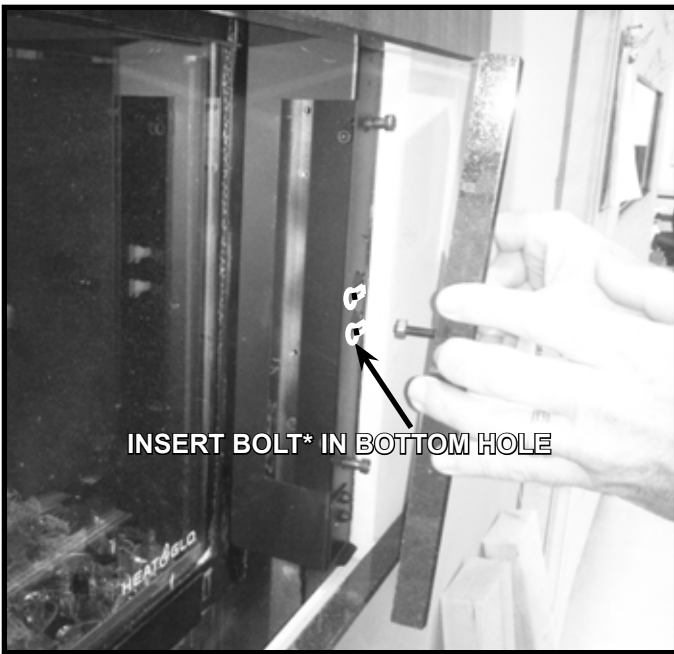
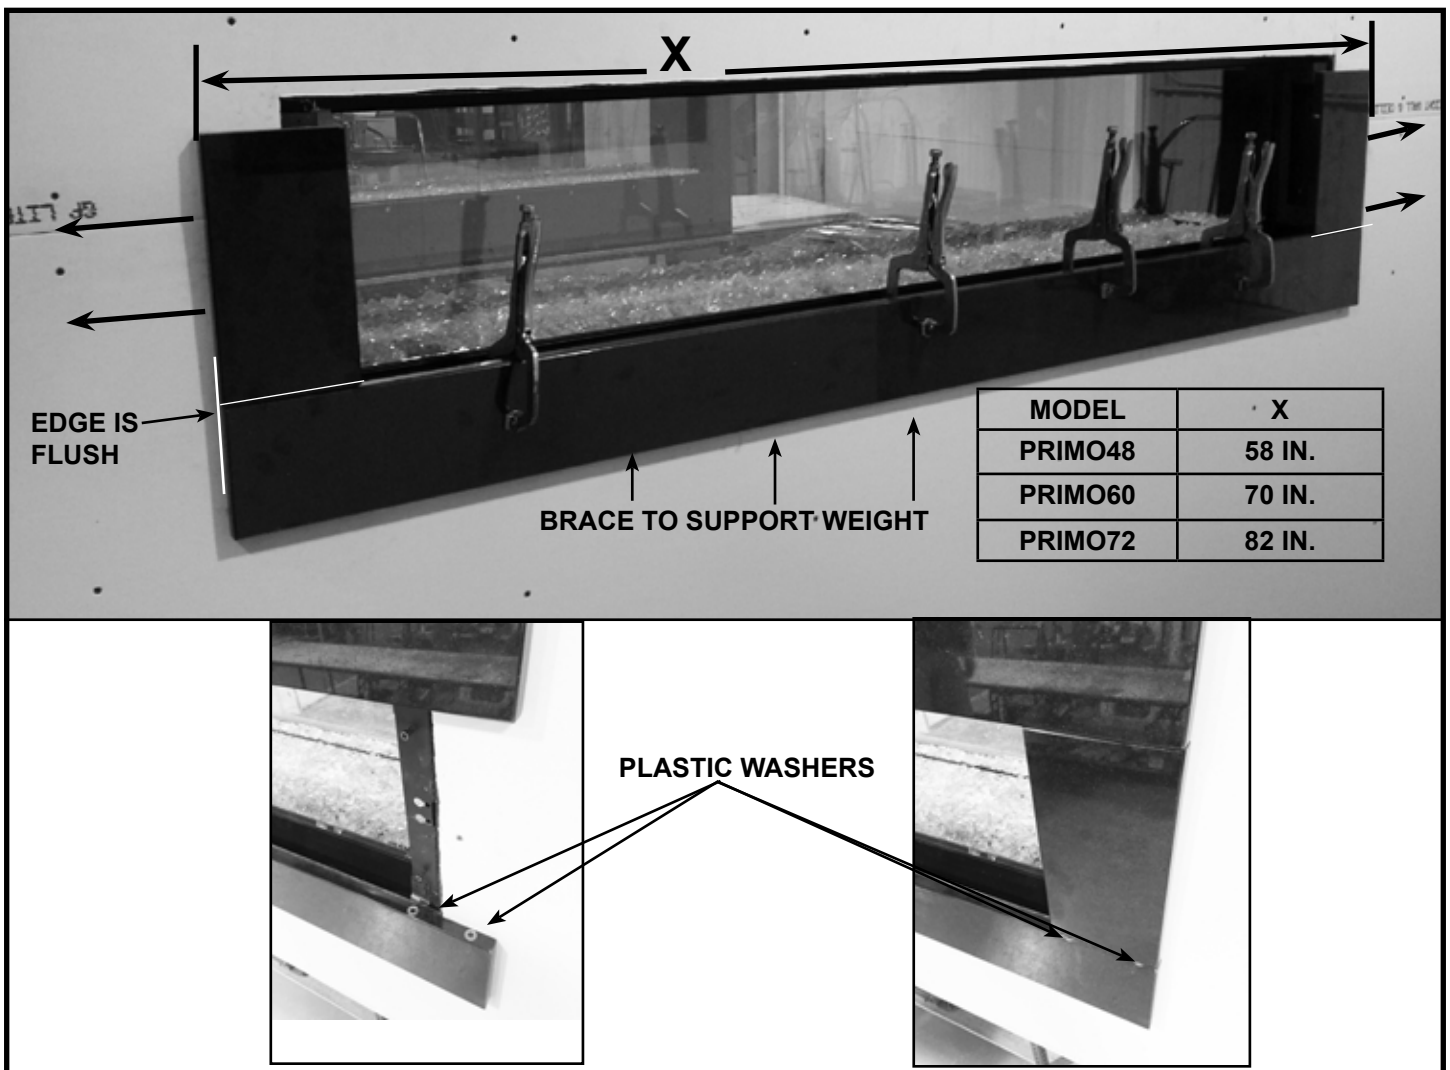

Figure 10.25. Install Side Granite Pieces
Figure 10.29 Bottom Granite Piece Installed
3. Install right outside granite by aligning the bolts on the back of the granite piece with bottom hole on granite transition panel bracket. Insert the bolt\* in the bottom slot. See Figure 10.25. Align and slide toward outside of appliance. Repeat with left side granite.
**NOTICE!** Verify the left and right side granite locations before installing the top and bottom granite. See Figures 10.25, 10.27, 10.29.
- Slide both side granite pieces outward as shown in Figure 10.29. Verify dimensions in Figure 10.25, 10.27 and 10.29.
- Place plastic washers as shown in Figure 10.29. The washers serve as spacers for granite placement. If washers are not used, the side granite will be difficult to remove.
**NOTICE!** Verify the left and right side granite is correctly installed per Figure 10.25, 10.27 and 10.29.
- Align the top edge with the bottom of the left and right outside pieces so the edges of the bottom piece are flush with the side pieces. See Figure 10.29. Secure the bottom granite in place with clamps or braces. See Figure 10.29. Do not remove supports or operate fireplace for 24 hours.
18. Reinstall side granite. See Figure 10.25.